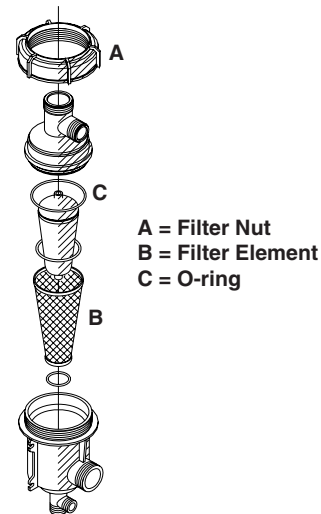

Fig 30
- 1 Unscrew the filter nut (**A Fig 30**) and open the filter.
- 2 Check the filter element (**B Fig 30**), clean if necessary and check there are no residues on any part of the filter hoses.
- 3 Lubricate the O-ring (**C Fig 30**).